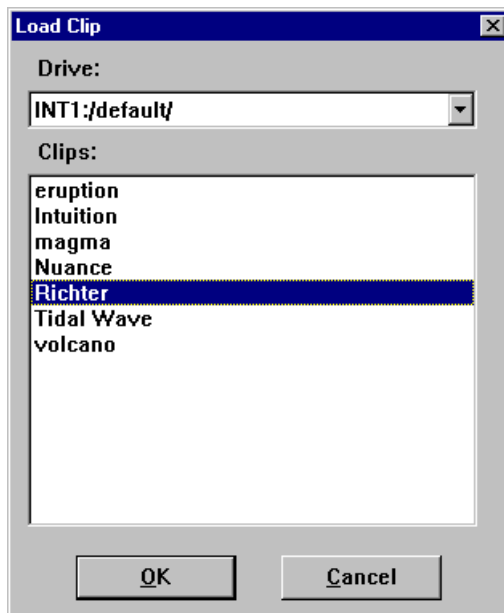

Figure 11. Load Clip dialog box
5. Select the clip to load—*Richter* in this example (see Figure 11).